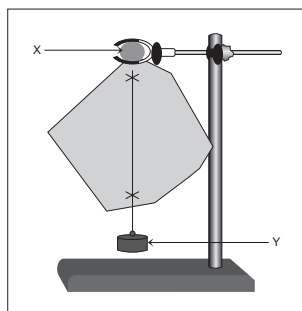
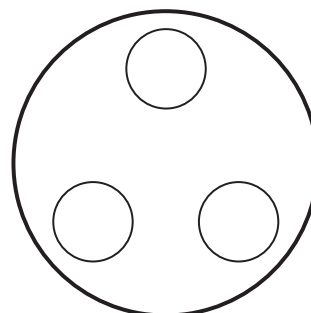

Fig. 1
Fig. 2
- (1) Take any irregular shape of thin plywood sheet (lamina) & paste blank drawing sheet on its Centre.
- (2) Hang it on the vertical stand from any one corner with the help of string as shown in the Figure 1.
- (3) Use plumb bob make a vertical line, according alignment of string on the drawing sheet.
- (4) Again, hang this irregular shape of thin plywood sheet on the stand from other corner and mark a vertical line on the same drawing sheet.
- (5) Repeat step-2 & 3 and make vertical lines on the drawing sheet for different hanging positions.
- (6) Intersection of all these vertical lines on the drawing sheet will gives centroid of that lamina.
- (7) Then find out centroid of that lamina theoretically and tabulate the results.
- (8) By using regular shape of thin plywood sheet with removable disk/disks like as shown in Figure 2. We can calculate and verify shifting of centroid of the plain lamina also.